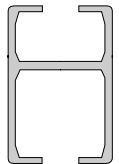

**Figure 1.**
1. Lay out all components. Locate shelf, bin bar, casters, and plastic end caps (Fig. 1) and set aside.